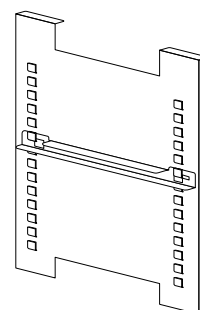

Figure 1-12. Channel Installed
4. Figure 1-12 shows one of the channels installed on the right side duct.